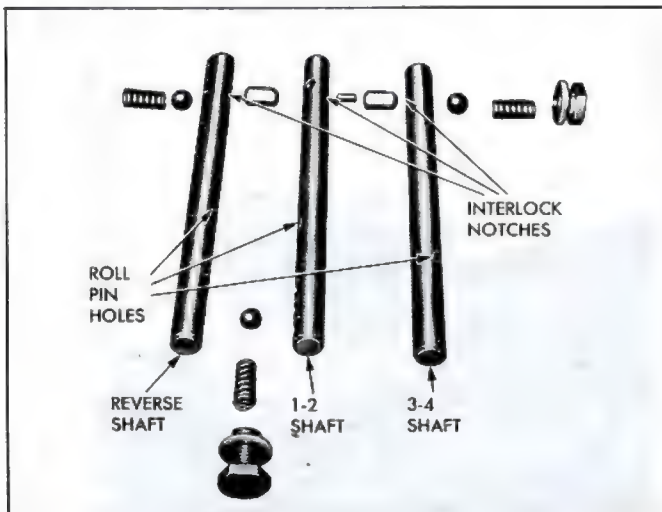

Fig. 7B-19—Shift Fork Shaft Identification
8. With the reverse idler gear shift fork fully rearward, engage the reverse idler gear to the shift fork (fig. 7B-18). Then align the Woodruff key groove in the idler gear shaft with the keyway in the rear face of the case and slide the shaft almost fully into the case, install Woodruff key in shaft, then fully bottom shaft.